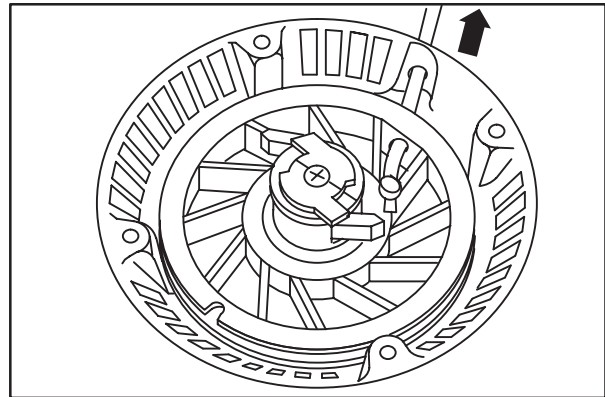

Fig. 54
6. Insert rope through pulley and eyelet in housing, **Fig. 54**.